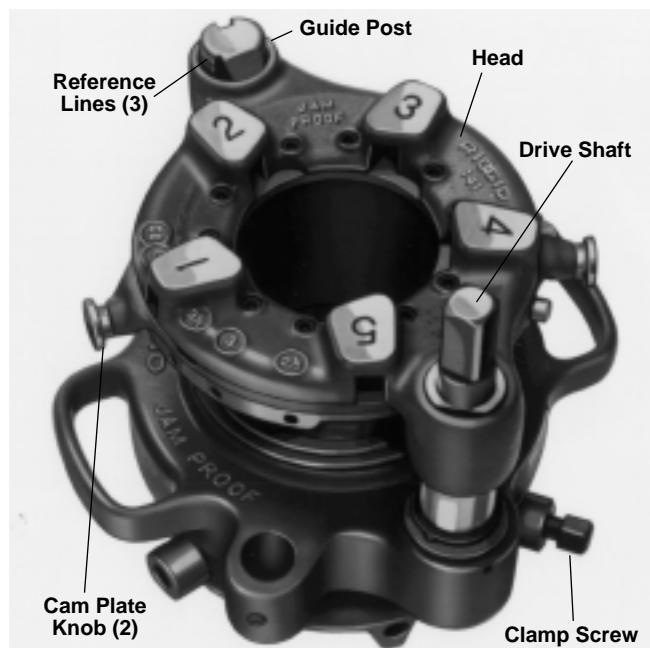

Figure 20 – No. 141 Geared Threader with Drive Shaft Up
7. Tighten workholder clamp screw (*Figure 20*) securely.
4. **141 and 161** – Loosen jaw clamp screw (*Figure 20*) and turn workholder to **OPEN** position.
2. Pull knobs (*Figure 20*) of cam plate and rotate cam plate to desired pipe size marking on top of die head. Release knobs when locating pins drop into holes in selector plate.
2. Pull knobs (*Figure 20*) and rotate cam plate to CD mark on top of die head.